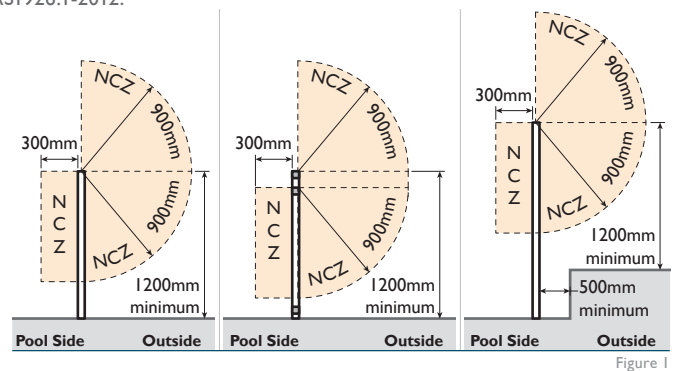

Figure 1
- › When less than 1800mm in height, it must be located such that there is a zoned area called the Non-climbable Zone (NCZ) consisting of a 900mm radius (continuous along entire length) where children cannot climb/crawl over the barrier by using steps, hand/foot holds, pot plants, or any other climbable objects. (Refer to Figure 1 for more detailed explanation).